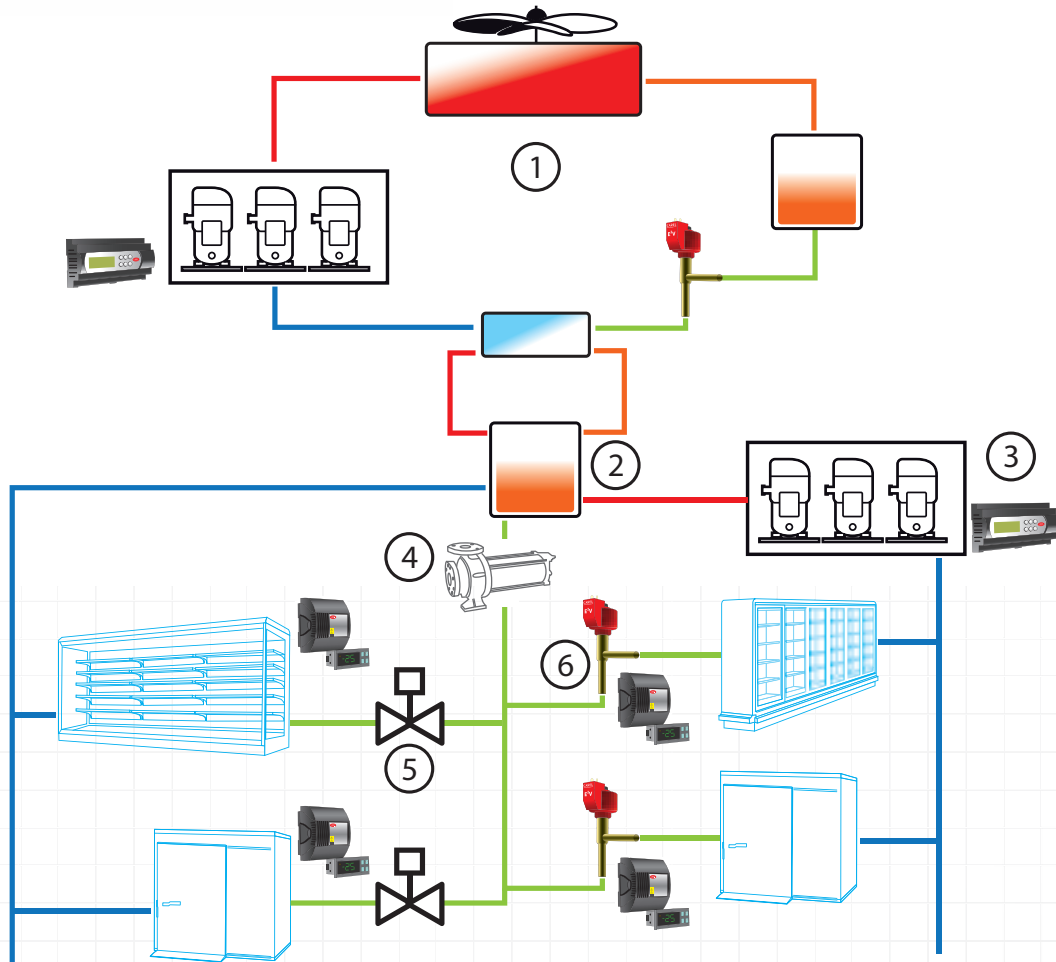

Fig. 1
The system consists of a chiller operating on R404A (Fig.1), with four independent circuits for cooling the CO2 in a tank that collects the R744 returning partly from the MT units, and partly from the LT compressor rack. The refrigerant is delivered to the showcase and cold room evaporators by a pumping unit. The liquid CO2 reaches the medium temperature units without undergoing expansion, while the low temperature units have an electronic expansion valve at the inlet to ensure these reach the right operating temperature. The chiller must thus be able to handle the cooling capacity of the MT units plus the heat of condensation of the LT rack.
Key to Fig. 1:
- cascade system defined as "New Concept", i.e. the system used in this installation, as described previously (Fig.1).